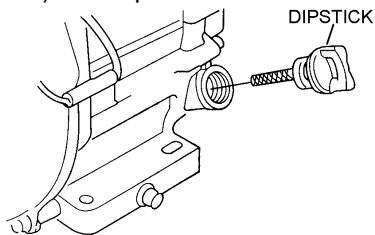

Figure 3. Engine Oil Dipstick Removal
2. Remove the filler dipstick from the engine oil filler hole (Figure 3) and wipe clean.